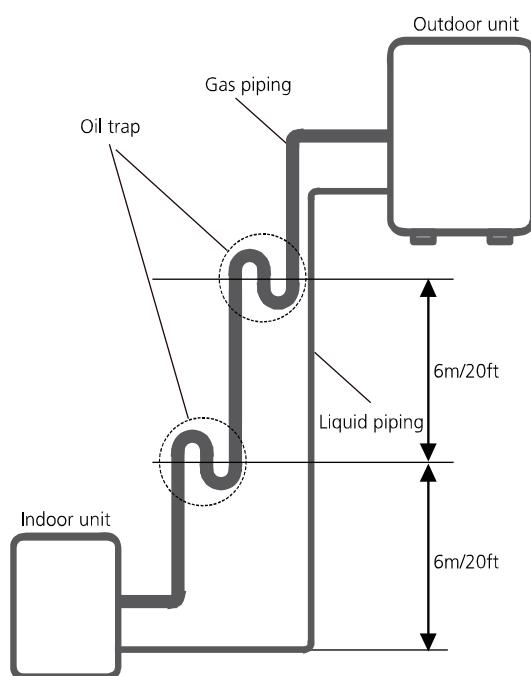

Fig. 7.3
-It is recommended that vertical suction risers not be upsized. Proper oil return to the compressor should be maintained with suction gas velocity. If velocities drop below 7.62m/s (1500fpm (feet per minute)), oil return will be decreased. An oil trap should be installed every 6m(20ft) of vertical suction line riser. (See Fig. 7.3)